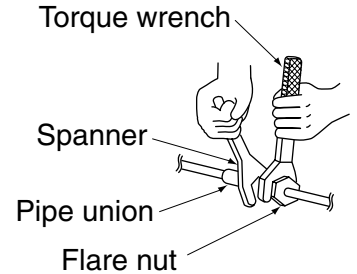

Fig. 14
- Be sure to use both a spanner and torque wrench together, as shown in the drawing, when connecting or disconnecting pipes to/from the unit. **(Refer to Fig. 14)**